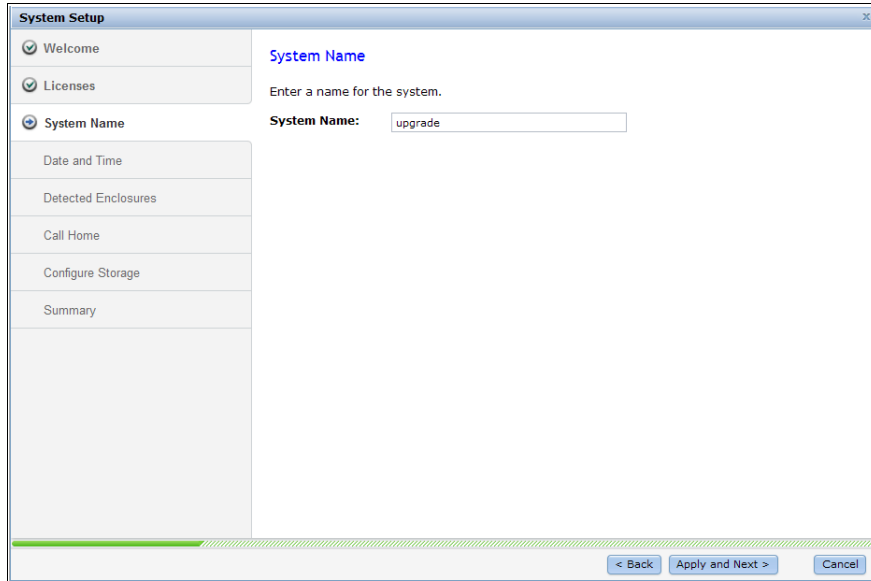

Figure 4-17 Setup wizard - Set a name for the system
4. Set up a system name and click **Apply and Next** as shown in Figure 4-17.